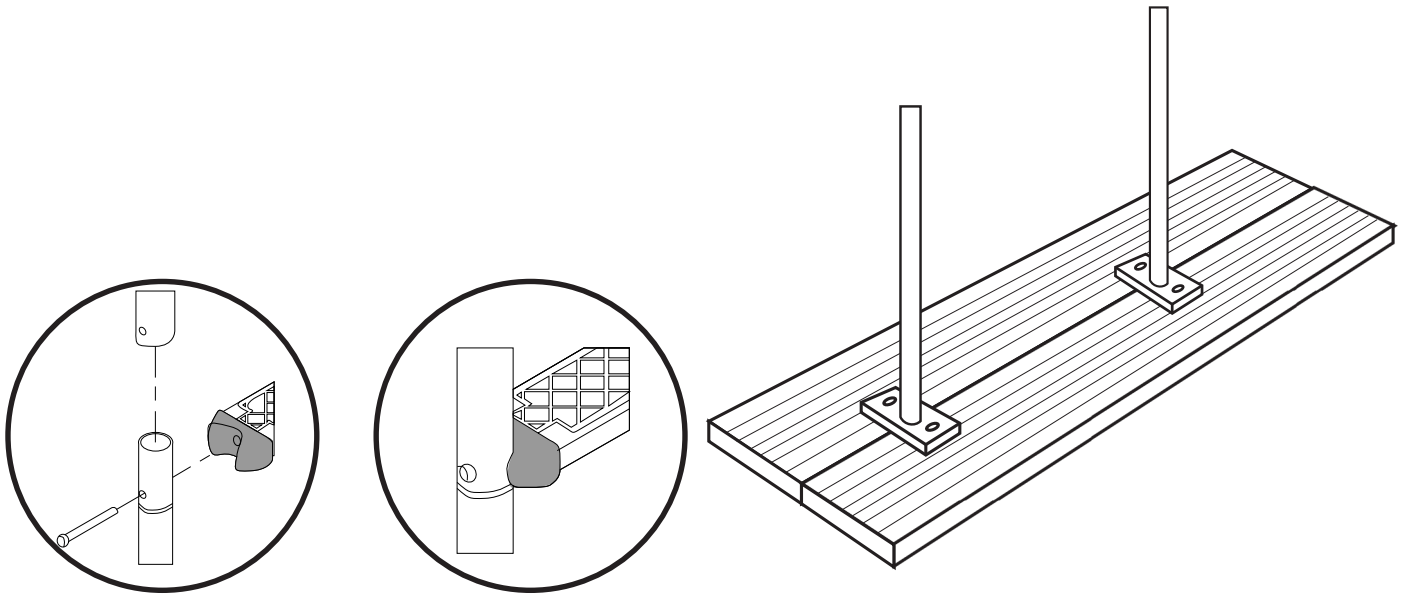

Fig. 21
A.- Assemble the upper (1) and lower (10) handrails using the press-fit method, securing them together with the steps (9). Attach the steps to the handrail using the provided screws (11), nuts (8), and washers (7). (See Fig. 21) **B.-** Install the handrail stoppers (12) to prevent the ladder from damaging the pool. **C.-** Once the ladder is assembled, position it in the pool and drill four Ø9mm holes using the mounting plate as a template. **D.-** Secure the backing plate (6) with screws (3), washers (4, 7), and nuts (8) using a 12-13 wrench. (See Fig. 22) **E.-** Install the decorative covers (2).